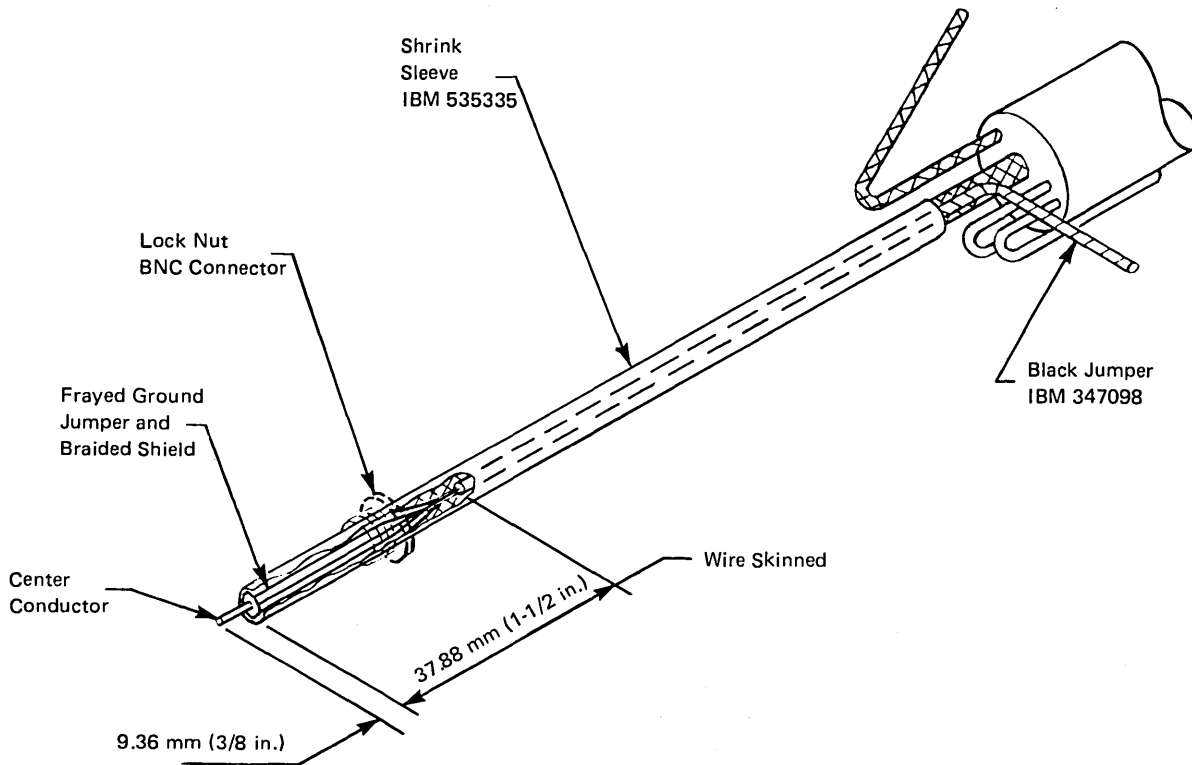

Figure 5-2. Procedure for Step 6, Attaching BNC Connector
6. Slide the small-diameter shrink tubing, IBM PN 535335, over the braided coaxial wire and black jumper wire. Shrink the tubing in place with a heat gun (see Figure 5-2). Install the BNC connector per instructions above, making sure that the strands of the black jumper wire attach to the connector with the strands of the coaxial braid.